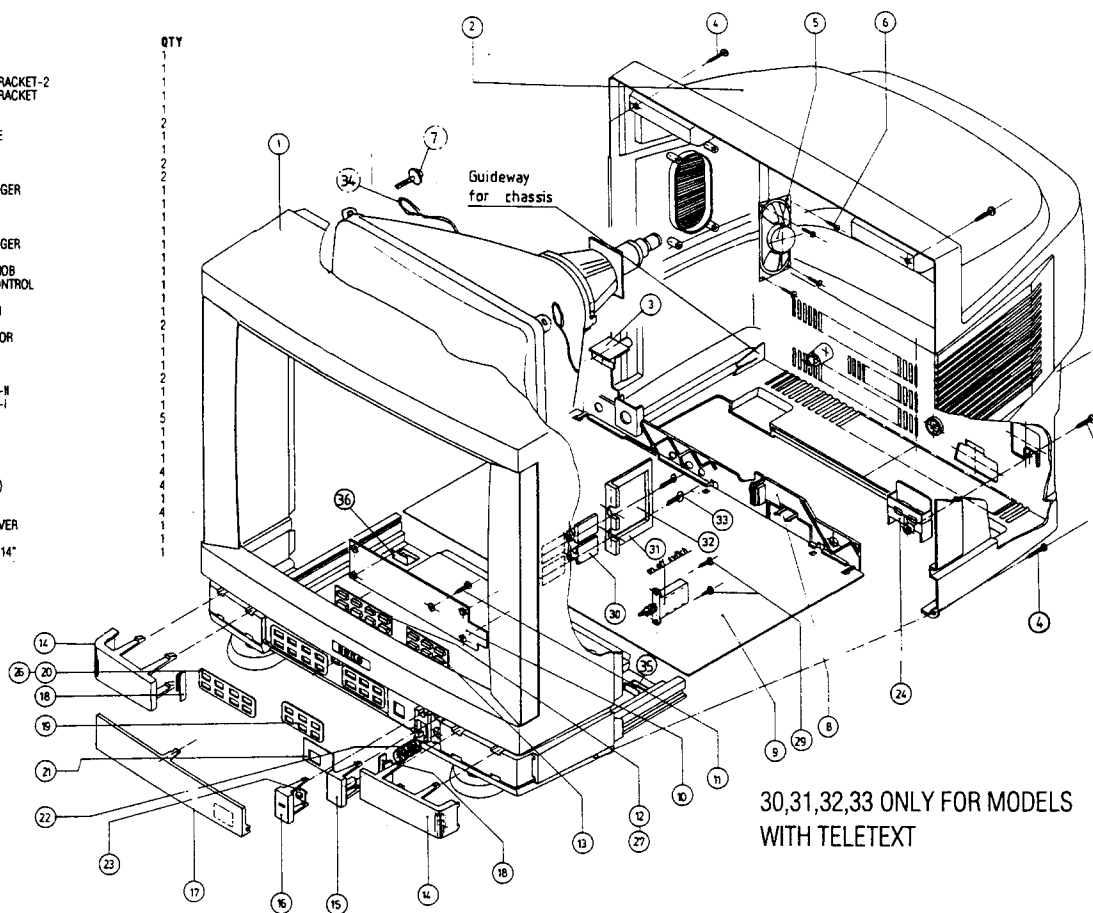

Figure 3
3. Attach the screws (2 pcs) fixing the speaker assembly to the back cover. Figure 3